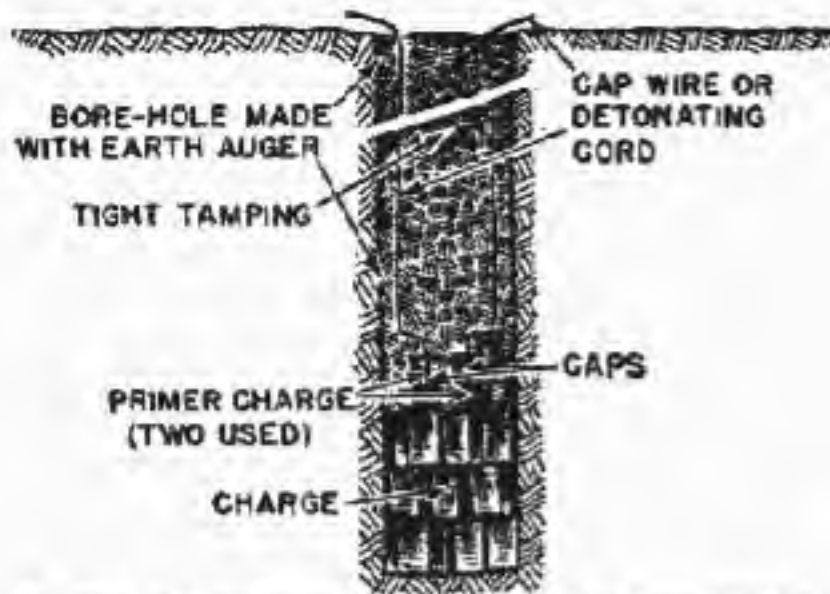

FIGURE 103.—Bore hole loaded to blow crater.
(2) After the firing wire has been tested (and repaired, if necessary) connect the free ends of the firing wire to the cap wires. Again touch the exploder ends of the firing wire to the galvanometer posts. If the needle moves along the scale, it indicates that the circuit is ready for firing if due care has been exercised to insure against shortcircuiting the cap wires while placing the charges. If the needle does not move, there is a break in the cap-wire circuit. If the needle moves only slightly, there is a place of high resistance, such as a bad joint, in the cap-wire circuit. If the caps are placed in parallel, each cap must be tested separately. Each series in a parallel series circuit must also be tested separately.
a. Crater.—Figure 103 illustrates how to prepare a borehole to blow a crater with TNT. The depth of the hole is determined by the officer in charge. In place of the TNT blocks, one or more ammonium nitrate cratering charges may be used.